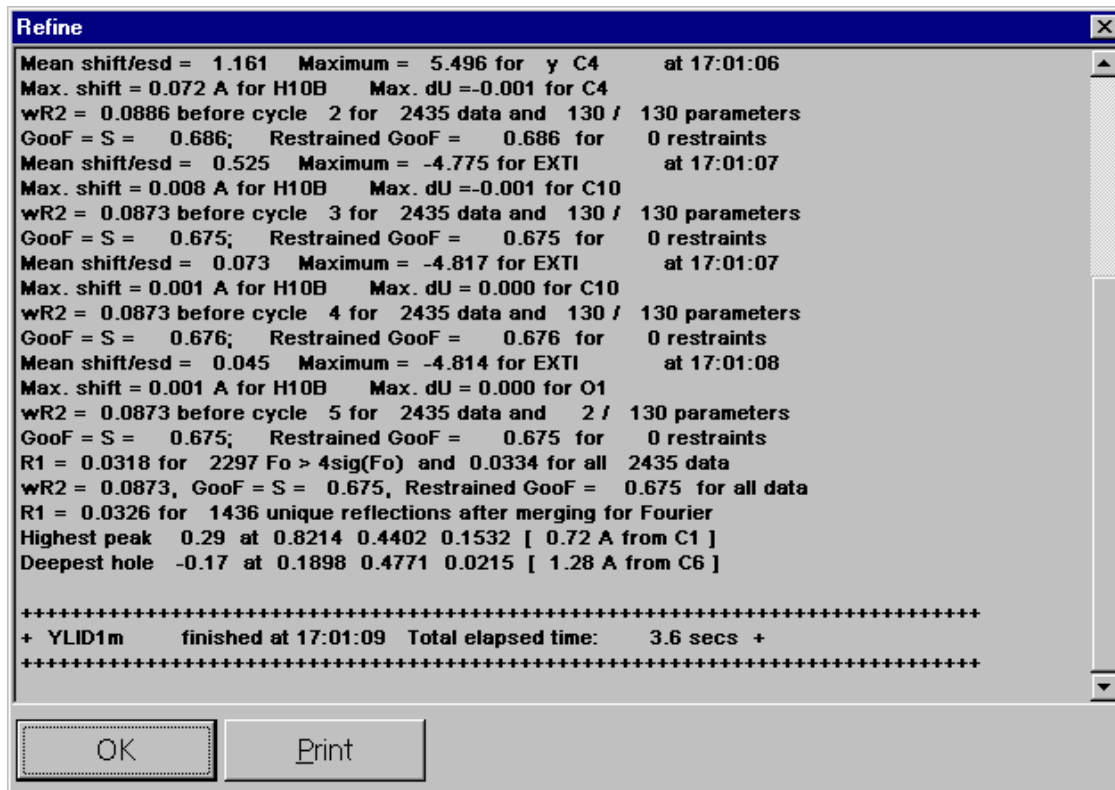

Figure 6-37. Refinement control
44. Click the Refine button at the top of the XSHELL Menu. A panel will appear (Figure 6-37).